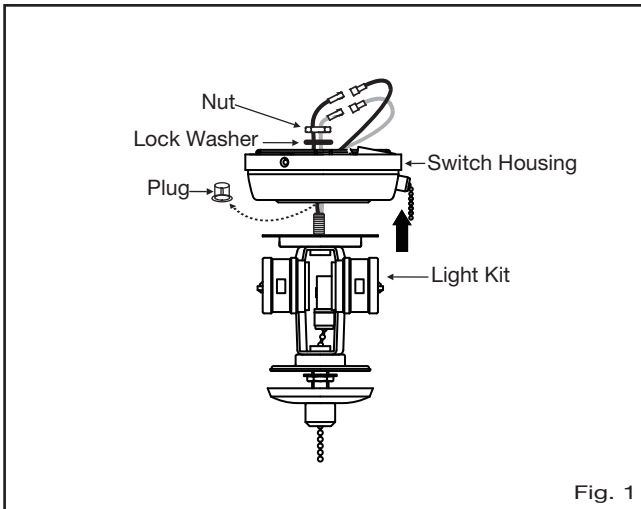

Fig. 1
- 1 Remove the trim ring from the canopy to expose the 6 mounting holes. The downrod, ball and cotter pin will not be used for this mounting (Fig. 1).
- 2 Feed fan wires through the rubber gasket and canopy and position the canopy over the mounting collar on top of the fan. The collar's 2 security screws will not be used and can be turned all the way into the collar to make attaching the canopy easier. (Fig. 1)
- 1 Remove ball from downrod by loosening set screw in the side of the ball. Slide ball down and remove ball pin; remove ball. (Fig. 1)
- 1 Connect the fan supply (black) and light (blue) wires to the black household supply wire as shown in Figure 1
- 2 Connect the neutral fan (white) wire to the white neutral household wire (Figure 1).
- 1 Place fiber washer on screw. Insert this assembly through the blade and start the screw into the blade arm. Repeat this procedure without tightening the screw until all 3 screws have been started into the blade arm (Fig. 1).
- 1 Remove and discard the plug from the switch housing, attach the light kit to the switch housing by feeding the light kit wires (black and white) through the hole of switch housing and then screw it onto the switch housing by nut & lock washer. Be sure it is tight enough to prevent light kit from vibrating loose. (Fig. 1)
A DOWNWARD airflow creates a cooling effect as shown in Figure 1. This allows you to set your air conditioner on a warmer setting without affecting your comfort.